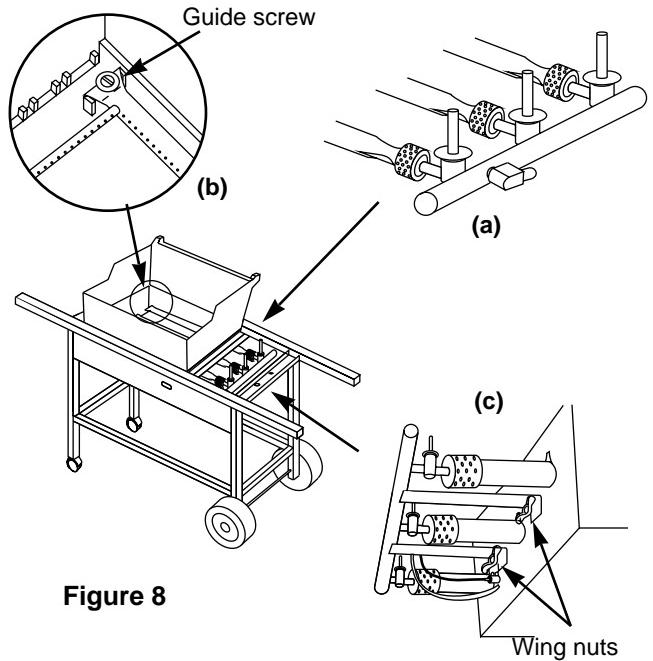

Figure 8
- a) Do the valves fit into the ends of the burners? Figure 8 (a).
- b) Are the ends of the burners under the washers at the left rear and left front of the cooking box? The screws are only guides. Do not tighten. Figure 8 (b).
- c) Are the wing nuts under the burner assembly hand tight? Do not tighten with pliers. Figure 8 (c).